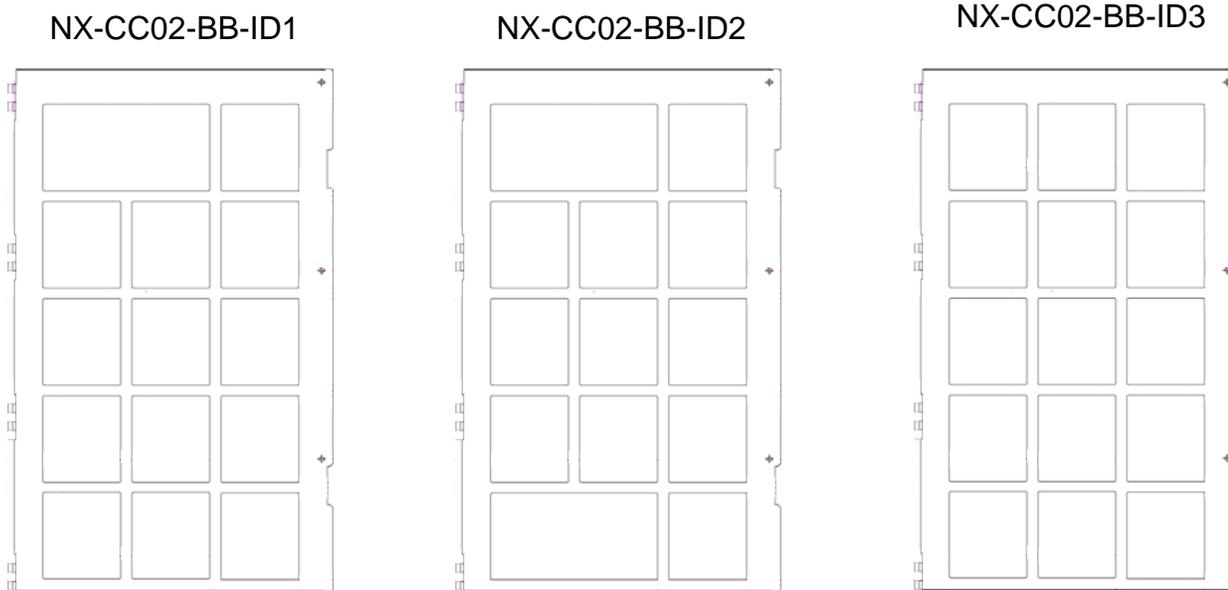

Figure 6 – NX-CC02-BB Modular Command Center Inner Doors
There are three (3) inner door options available for the NX-CC02-BB modular command center (see figure 6).